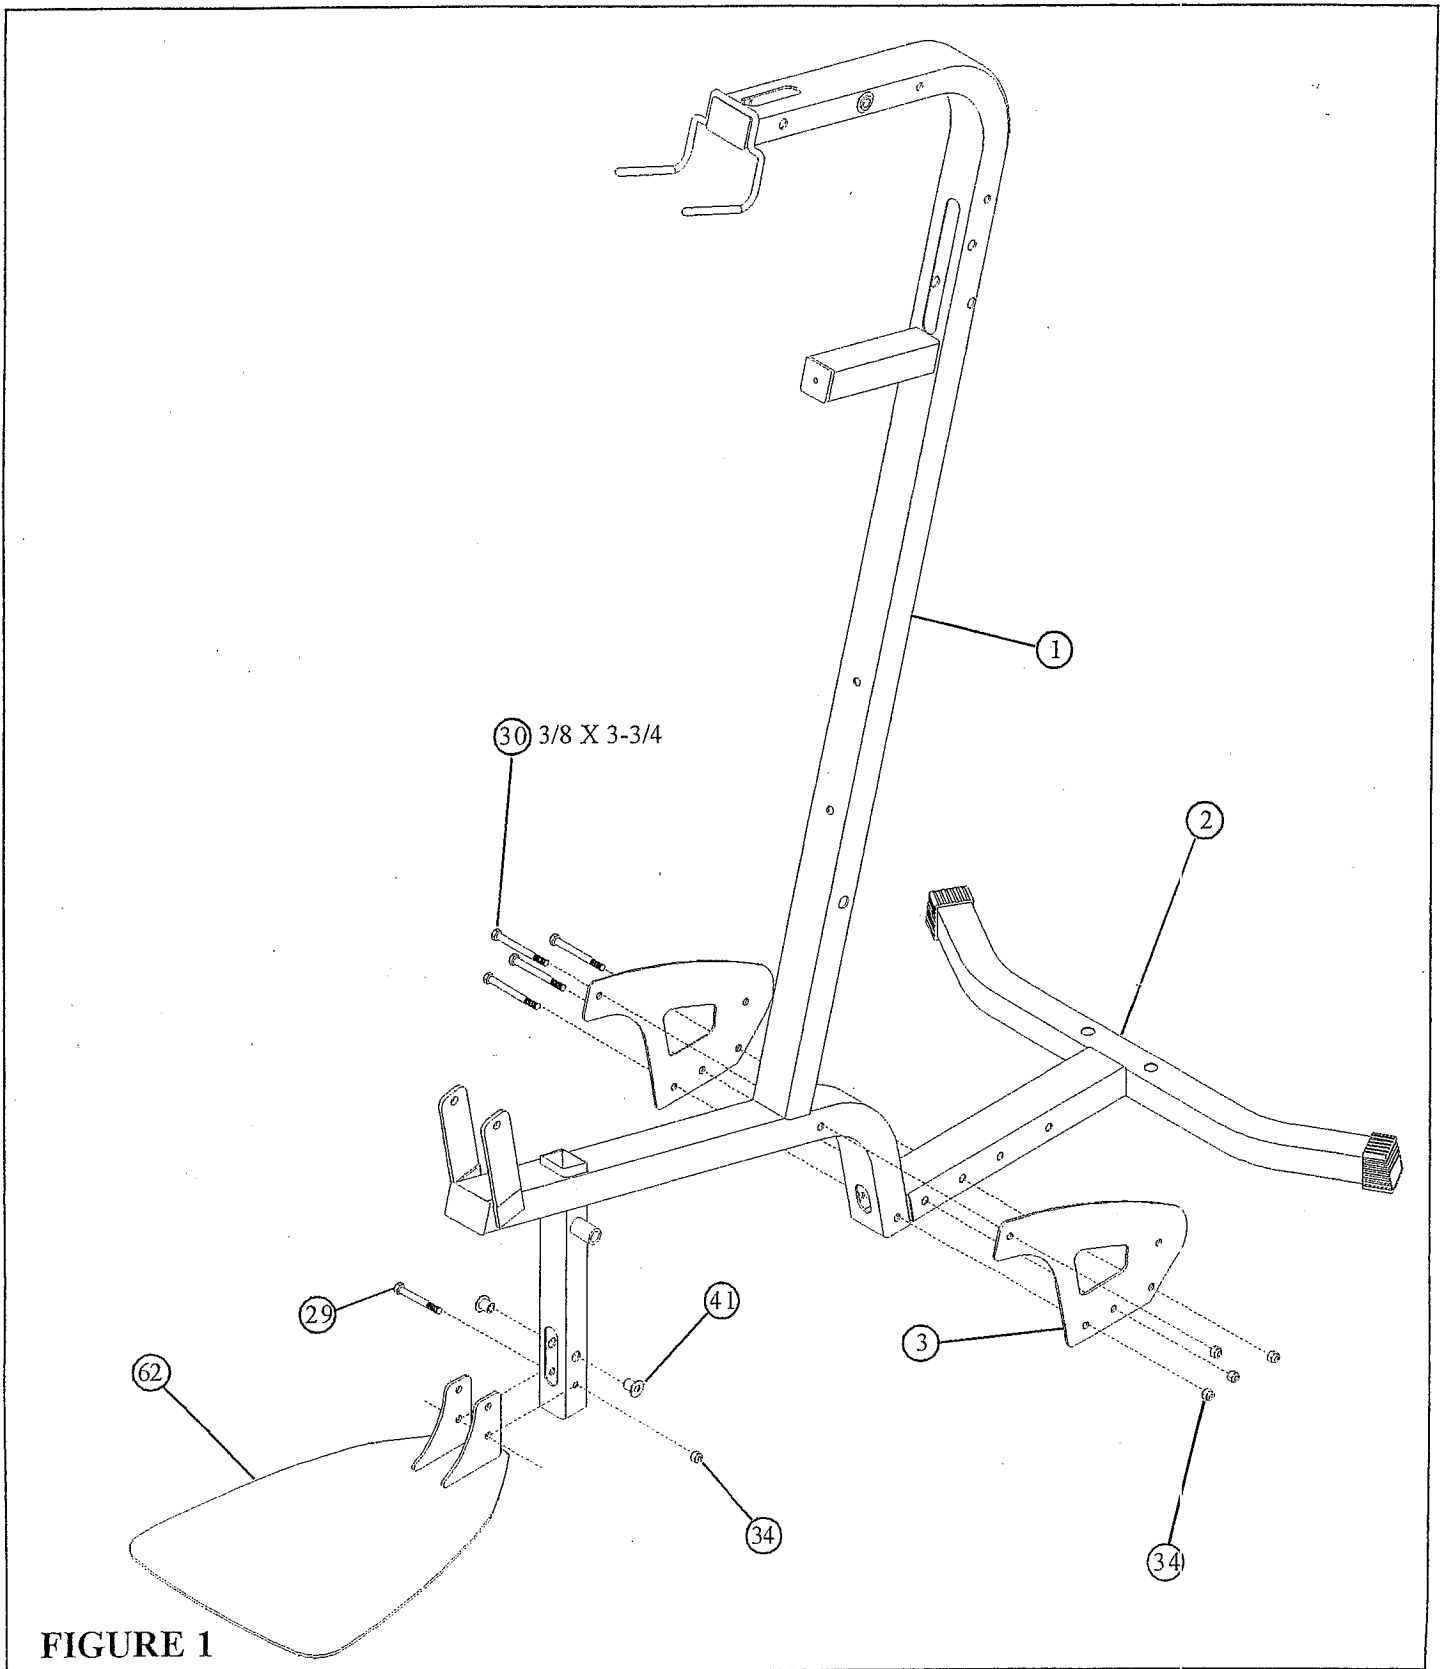

FIGURE 1
- **LOOSELY** assemble two BASE PLATES (3) to the FRAME (1) and BASE (2) using four 3/8 X 3-3/4" BOLTS (30) and four 3/8" LOCK NUTS (34). See FIGURE 1.
- Insert two 3/8 x 9/16" FLANGE SPACERS (21) into the upper holes in the FRAME (1) as shown in figure 1
- **LOOSELY** assemble the FOOTPLATE (62) to the lower holes in the FRAME (1) using one 3/8 x 3" BOLT (29) and one 3/8 LOCKNUT (34)